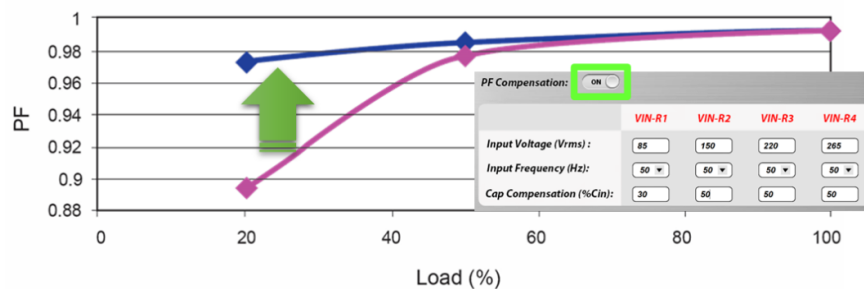

Figure 3: HR1210 PF Compensation Feature
The GUI allows the designer to compensate the reactive current of the input capacitor in sections, and solve the power factor (PF) problem under light-load conditions with the push of a button (see Figure 3).